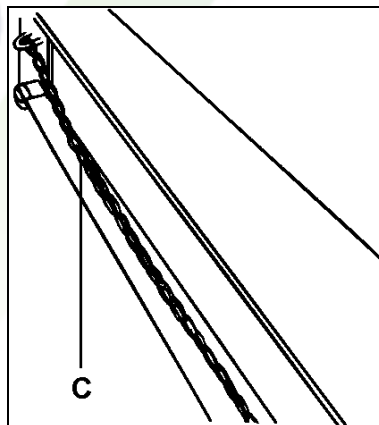
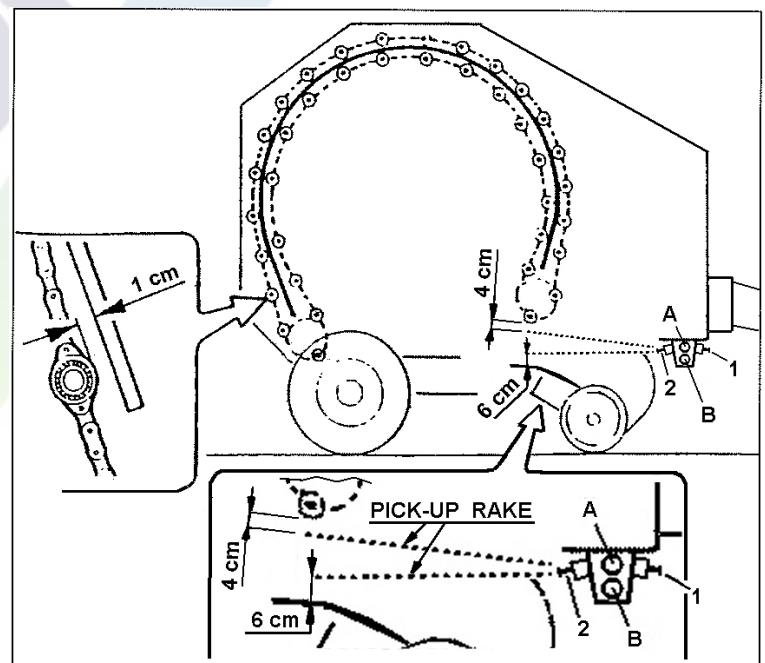

Fig. 1/a
Fig. 3
- It is always necessary to block the universal joint when not in use, hooking it onto its chain C (Fig. 1/a).
Position the machine on a horizontal surface using the stopper foot (the height of the P.T.O. should be from 86 to 90 centimeters from the ground – fig. 1/bis). Position the pick-up rake in the hole A to bale long-medium crop or hole B to bale short crop (Fig.3). Adjust screw 1 and 2 so that the rake tips are approx. 6 cm far from the ground of packer device and approx. 4 cm far from the chain bars (Fig.3) Hook the machine with the tractor in reverse, positioning the towing eye at the desired height (also adjusting, if necessary, the height of the hitch of the tractor) ensuring that it is securely fastened. The round baler is correctly positioned when its frame is parallel to the ground or slightly inclined upwards at the front (fig.1/bis).
Check the slack at the point indicated in Fig. 3, which should be about 1 cm with the machine at full load.